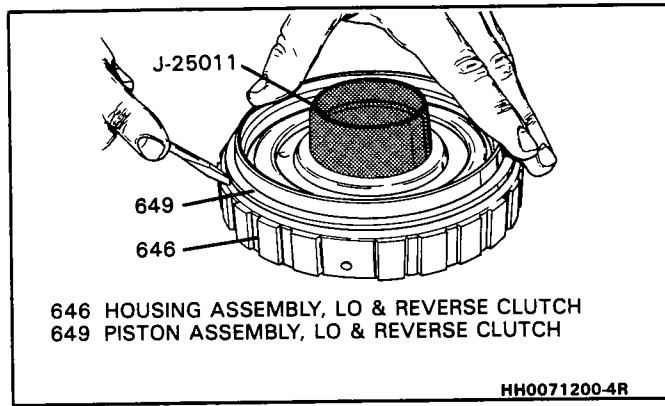

Figure 50 Installing - Lo and Reverse Clutch Piston
- Clutch apply ring (650) for cracks or distortion
- Piston (649) for wear, cracks, or damage
- Spring retainer (652) for damage
- Clutch plates (626):
**Assemble (Figures 50 and 51)**
1. Clutch apply ring (650).
2. Inner and outer piston seals (648).
4. Lo and reverse piston (649). Use J-26744.
6. Waved release spring (651).